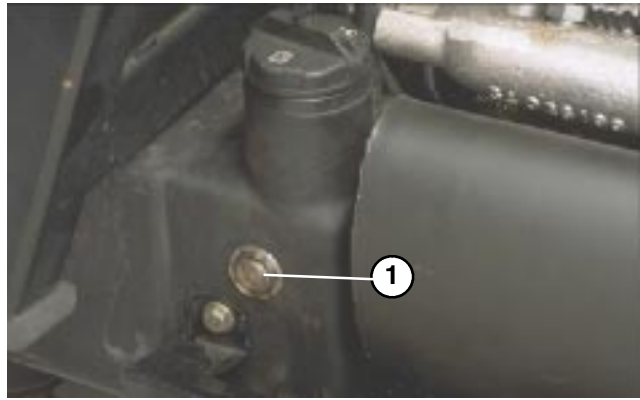

Figure 37
5. With wing decks raised, center deck down and oil warm, look into sight gauge (Fig. 37). If hydraulic oil is not visible, add enough oil to raise level to middle (maximum) of sight gauge. To prevent over filling, do not fill if oil is cold. **DO NOT OVER FILL.**